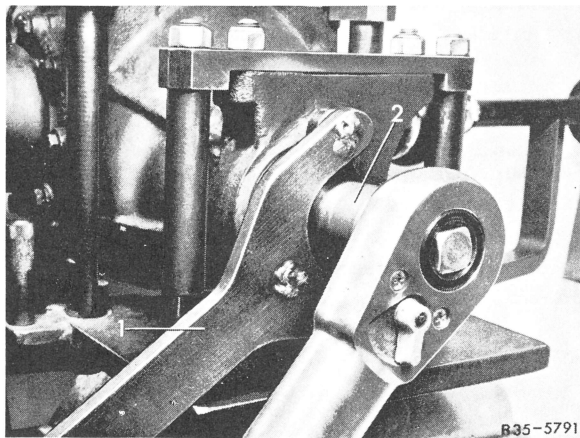

Fig. 4
- 6 Attach holding wrench to universal flange and loosen slotted nut with slotted nut wrench (Fig. 4).
- 11 Attach universal flange and carefully tighten self-locking slotted nut until the cranking torque measured and taken down according to item 4 has been attained (Fig. 4).